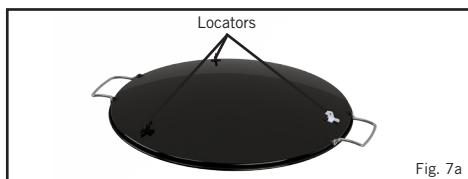

Fig. 7a
- To prepare the Skottel Braai for use place it onto the burner pan (F) so that all three locators (V) (Fig.7a) will properly mate with the lip on the circumference of the burner pan (F) thus ensuring a stable fitment.